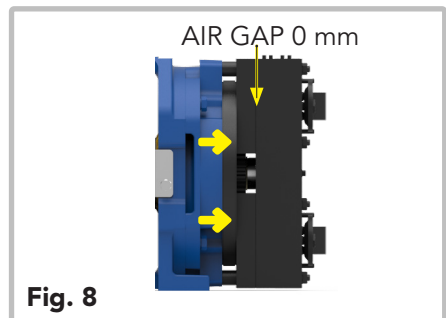

Fig. 8
- When the brake electromagnet is powered, it releases the brake disc (yellow arrows in Fig. 8); now the motor is released.